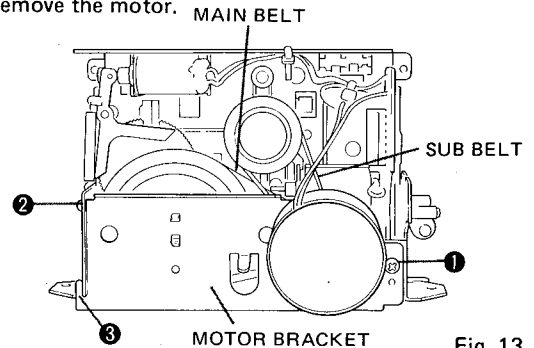

Fig. 13
3. Remove the screw ① in Fig. 13 and remove actuators ② and ③ when pulling down the motor bracket and then remove the motor bracket and remove main and sub belts.